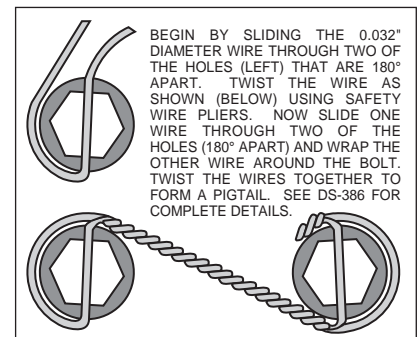

Figure 4. Safety Wire Diagram
- Attach rotor adapter (8) to rotor (9) using six bolts (10). Torque bolts (10) to 180 in-lb. Safety wire bolts (10) using standard 0.032 inch diameter stainless steel safety wire as shown in Figure 4. Please refer to Wilwood's data sheet DS-386 (available at www.wilwood.com/pdf/ds386.pdf) for complete safety wire installation instructions. **NOTE:** The flat side of the rotor (8) lugs face toward the rotor adapter (9) with the dished side of the rotor adapter (8) facing away from the rotor (9).
- Mount the adapter/rotor assembly (8 and 9) to the hub (5) using six bolts (11). Torque bolts (11) to 22 ft-lb. Safety wire bolts (11).
- Pack the small outer bearing cone (12) with high temperature disc brake bearing grease and install into front of hub (5). Slide the hub/rotor assembly (5 and 9) with outer bearing cone (12) onto the spindle. Secure using stock washer, adjusting nut and nut locking device.
- Install the dust cap (15) onto the hub (5). Friction created by the o-ring (14) on the dust cap (15) keeps it from unscrewing. The O.D. of the existing spindle washer may be larger than the I.D. of the dust cap (15) not allowing it to seat against the hub face. Therefore, use the spindle washer (13) supplied with the kit instead of the stock washer.
- **NOTE:** Please reference the caution statement at the beginning of the assembly instructions. With the bleed screws pointing up, mount the caliper (16) onto the caliper mounting bracket (1) using lock washers (17), bolts (18) and caliper spacer (19) positioned between caliper (16) and the caliper mounting bracket (1). Finger tighten. View the rotor (9) through the top opening of the caliper (16). The rotor (9) should be aligned in the center of the caliper (16). If not, adjust the caliper (16) by using 0.032 inch thick shims (20) placed between the caliper mounting bracket (1) and the caliper (16). Add as many shim washers (20) as necessary to achieve the correct alignment. Always use the same amount of shims on both the top and bottom caliper mounting bolts (18). Finger tighten and recheck alignment, adjust as necessary. Apply red *Loctite*® 271 to bolt threads (18) and torque to 30 ft-lb. Safety wire caliper bolts (18).
- Install the disc brake pads (21) into the caliper (16). Secure the disc brake pads to the caliper utilizing cotter pin (22).